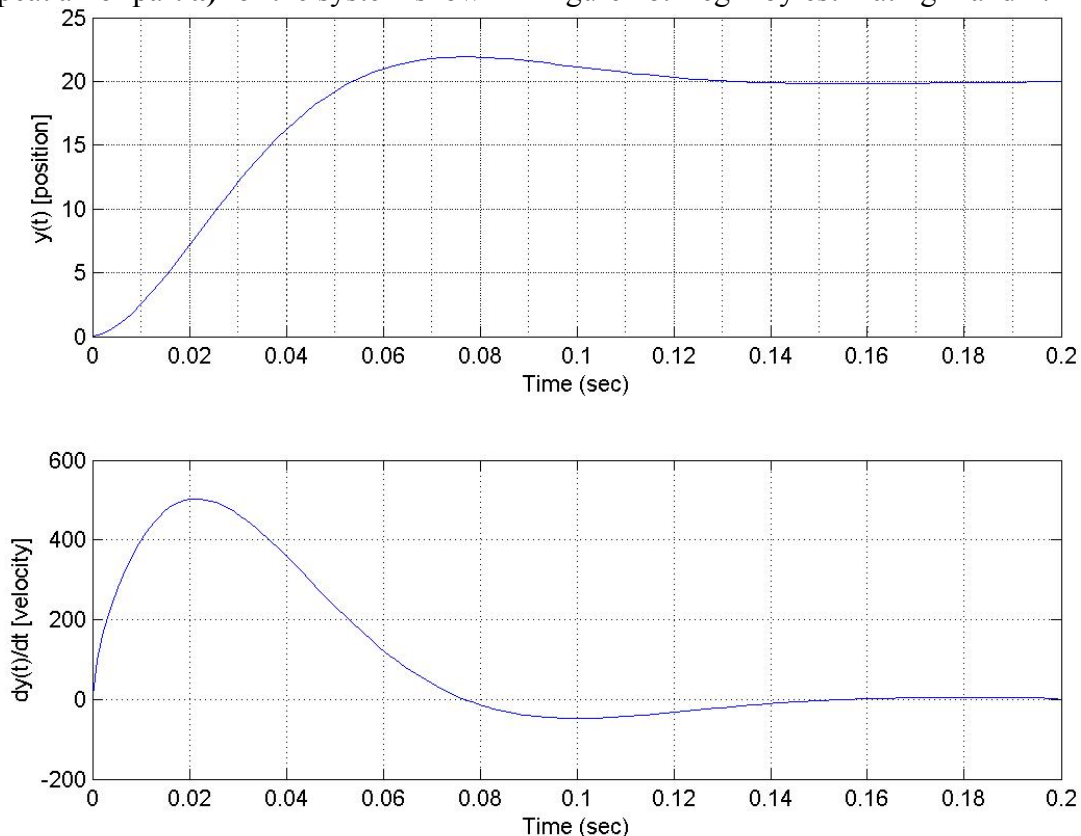

Figure 2b - Open-loop system step response. Position (top) and velocity (bottom) are both shown.
b) Repeat all of part **a)** for the system shown in Figure 2b. Begin by estimating T and L .